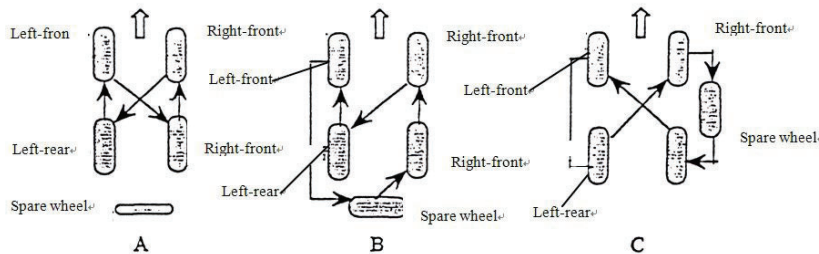

Fig. 1-4 Tyre Rotation Method
- (1)The air pressure to the tyre shall be inflated according to the pressure regulated for the tyre;
- (2)The vehicle shall not be overloaded;
- (3)Good four-wheel alignment shall be guaranteed;
- (4)Operation time for crash maneuver, sharp turn and crash acceleration shall be reduced; and
- (5)Attention shall be paid to regular rotation (See Fig. 1-4 for the rotation method).